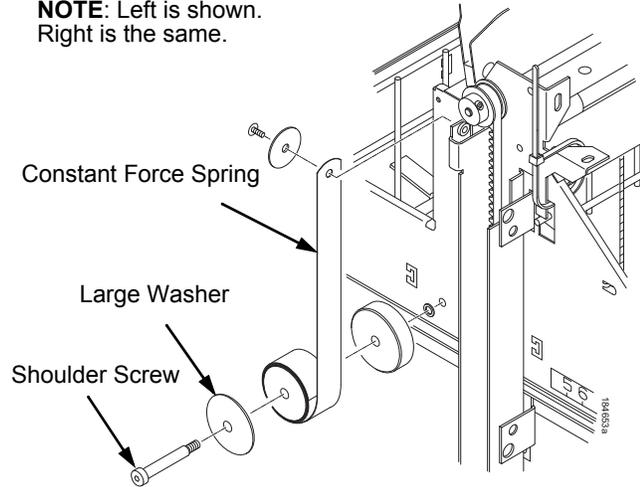

Figure 30. Releasing the Constant Force Spring
6. Remove the shoulder screw and large washer that secure the constant force spring to the vertical rail. (Figure 30.)